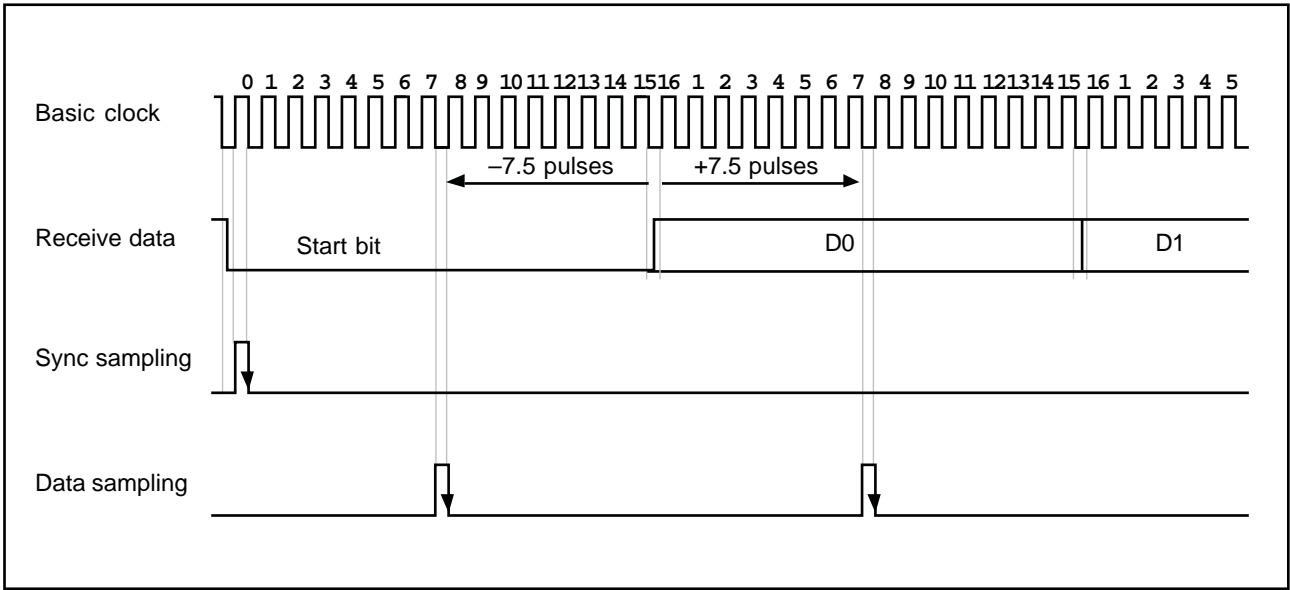

Figure 8-18. Sampling Timing (Asynchronous Mode)
(4) Sampling Timing and Receive Margin in Asynchronous Mode: The serial clock used by the SCI in asynchronous mode runs at 16 times the baud rate. The falling edge of the start bit is detected by sampling the RxD input on the falling edge of this clock. After the start bit is detected, each bit of receive data in the frame (including the start bit, parity bit, and stop bit or bits) is sampled on the rising edge of the serial clock pulse at the center of the bit. See figure 8-18.